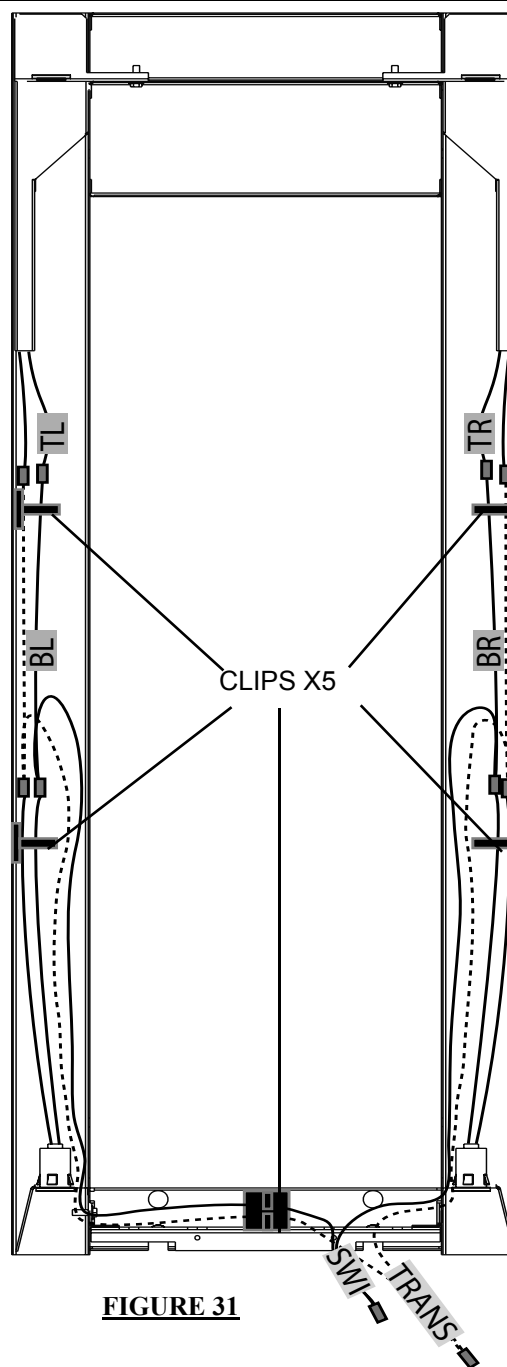

FIGURE 31
5. Using Figure 31 as a guide, connect the light assemblies to the appropriate flags on the wire harness. The wire harness is labeled (TR) top right, (BR) bottom right (TL) Top left and (BL) bottom left.